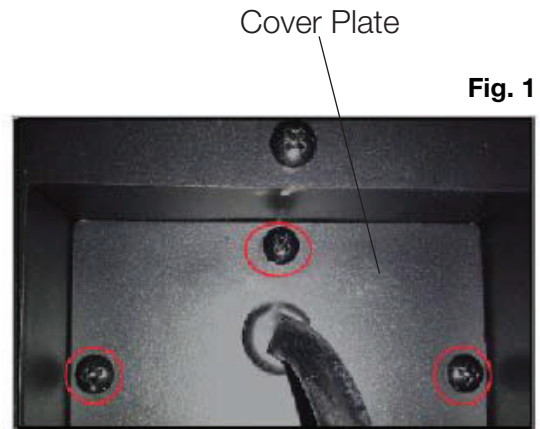

Fig. 1
- Remove the cover plate from the bottom right side of the appliance by removing the three screws (**Fig. 1**).
- Reinstall the cover plate using the three screws (**Fig. 1**).